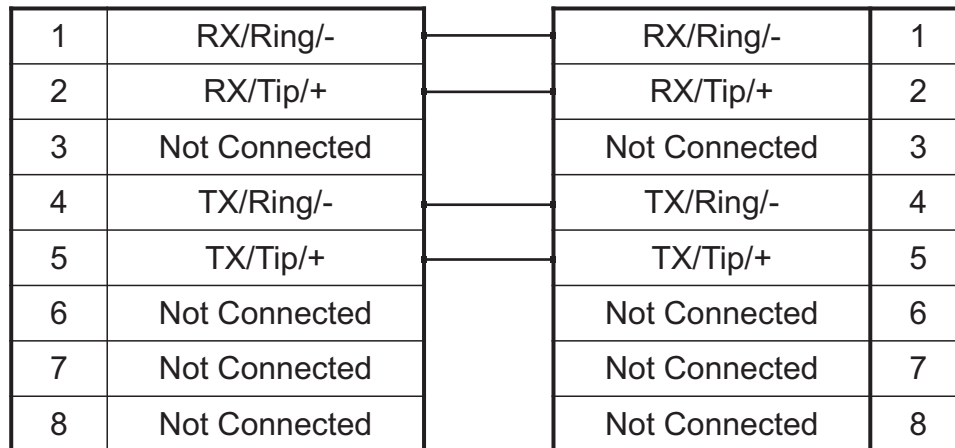

Figure 2.5 RJ48 Wiring Schematic
- Your TMP5900 features 16 modular 8-conductor RJ48 type jacks for connection to T1/E1/J1 lines. You will need one cable for each (T1/E1/J1) interface on the TMP5900. If you are making your own cables, refer to figure 2.5 on page 14 for crossover or straight cable wiring connections.
A TMP5900 with 16 RJ48 type ports enables the connection to T1/E1/J1 lines. The termination impedance is set at 100 ohms for T1 lines and 120 ohms for E1 lines. It is possible to connect an external balun in order to convert to 75 ohms. See figure 2.4 on page 13. If you are making your own cables, refer to figure 2.5 on page 14 for crossover or straight cable wiring connections.